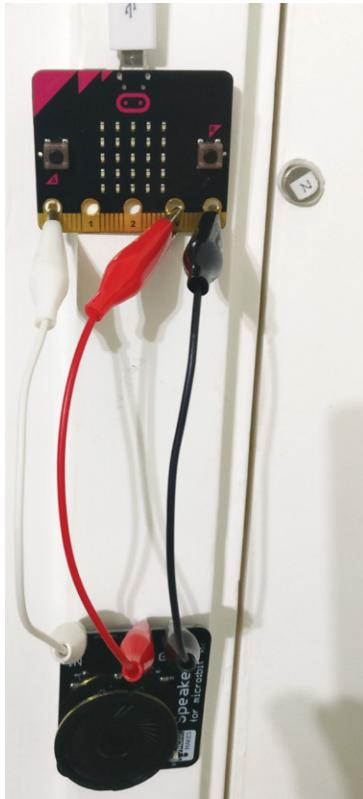

Figure 4-9: A magnetic door alarm
Figure 4-9 shows the project attached to the Mad Scientist's door.
1. Connect the speaker to the micro:bit using the three alligator cables, as shown in Figure 4-9.